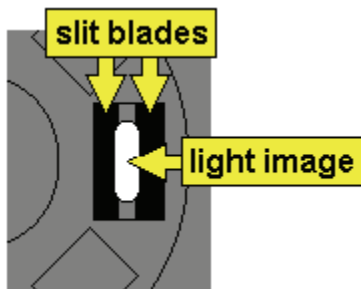

Figure 66 Aligning the emission fibre
22. Turn the adjustment screw until the white light is centralized on the emission slit inside the LS 55, as shown in Figure 66.